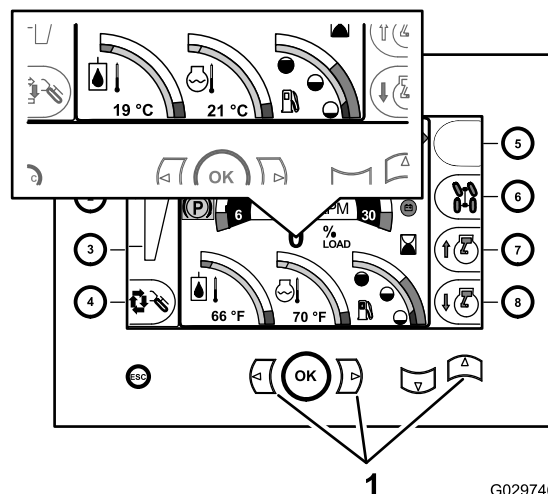

Figure 32
1. Display the home screen of the command center (Figure 32).
2. Press the left+right+up buttons (Figure 32).